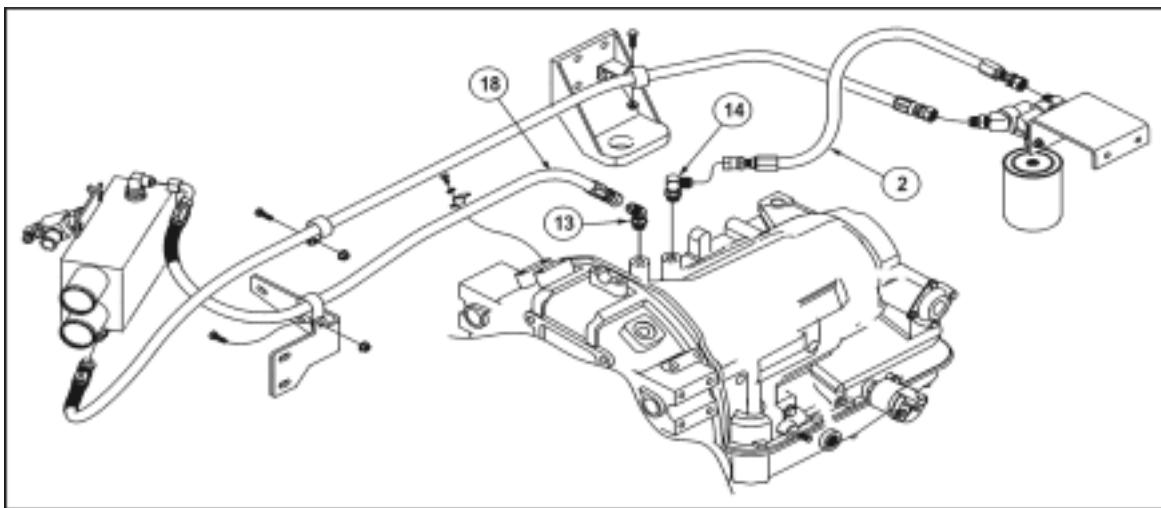
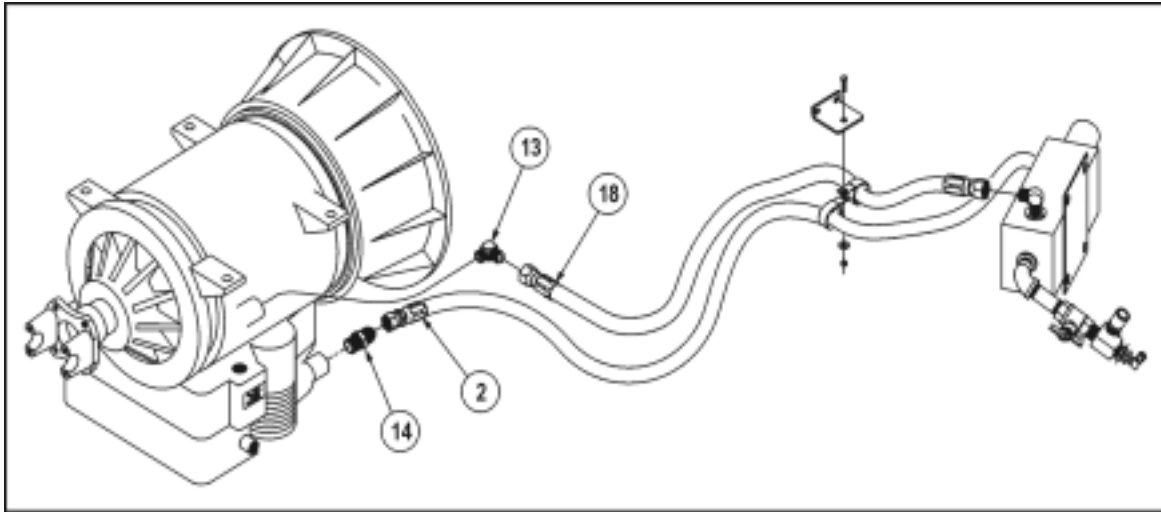

Figure 6—AT545 and MT643 Cooler Hose Routing
Figure 6A—MD3060 and B300 Cooler Hose Routing
1. Connect the fluid hose assembly (18) to the 45° fitting (13). See **Figure 6** for AT 545 and MT 643 transmission. For MD3060 and B300 transmissions, see **Figure 6A.**
2. Connect the return hose assembly (19) to 90° elbow (14). See **Figure 6** for AT 545 and MT 643 transmissions. See **Figure 6A** for MD3060 and B300 transmissions.
For units equipped with hydraulic brake systems and the MD 3060 or B300 World™ transmission, install cap screws (17) and lock washers (18) in eight places. Figure 6A. Torque to 81 - 97 ft-lbs. (9.15 - 10.95 Nm).